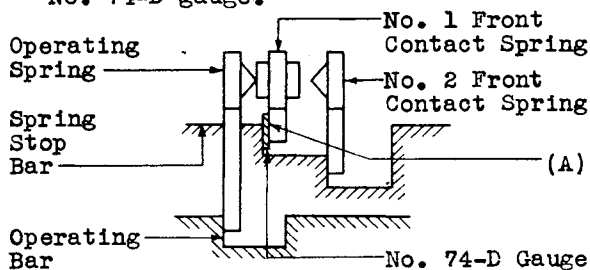

Fig. 25
1 - Operating Spring and No. 1 Front Contact Spring - Fig. 25 (A) - With the operating bar in the neutral position, a .011" feeler gauge inserted between the tang of the No. 1 front contact spring and the side of the associated notch in the spring stop bar nearer the cam roller, will not cause the contacts to break. Use the No. 74-D gauge.